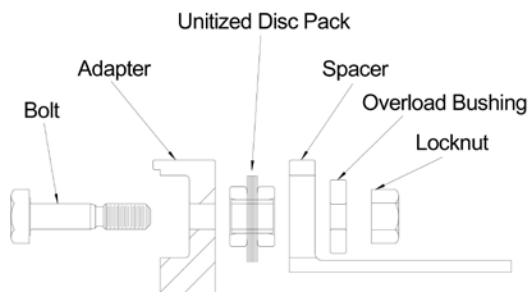

Figure 11C – Disc Pack Bolt Configuration if Adapter
10.3. Install the disc packs to the adapter first so that the bushing heads in the disc pack line up with the bolt holes in the adapter flanges as shown in Figure 11C. Insert the bolts through the adapter bolt holes and disc pack assembly.